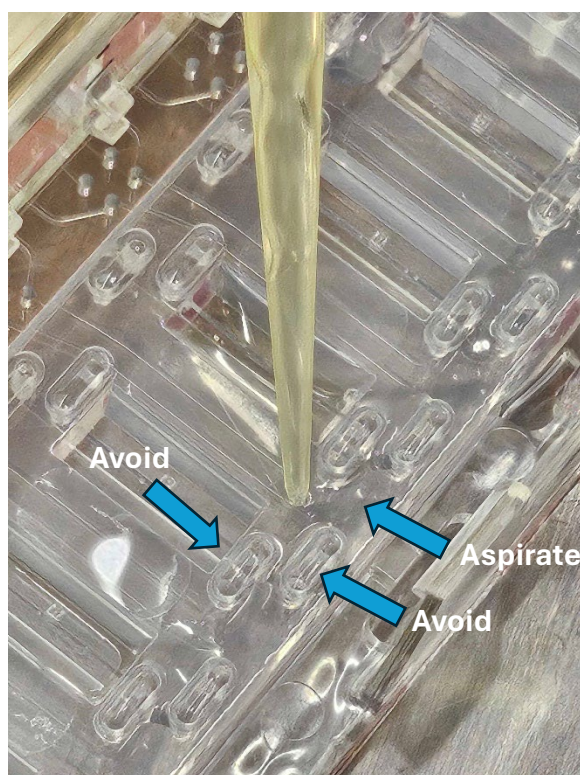

Figure 18. Proper aspiration of excess media around Emulation gasket ports.
14. Aspirate any excess media from the viewing windows and on the gasket. Do not aspirate within the gasket ports. See Figure 18 for proper aspiration of excess media around the gasket ports.